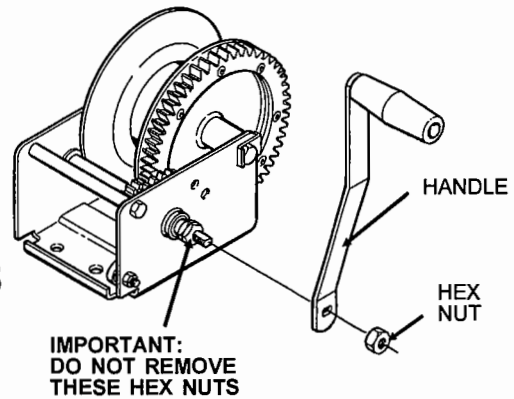

FIG. 35
Step 33. Align slot of handle with flat portion of winch pinion shaft. Use hex nut to hold handle in place and tighten securely. For additional winch information, follow the instructions and precautions listed in the material supplied with the winch from the manufacturer. See Fig. 35.